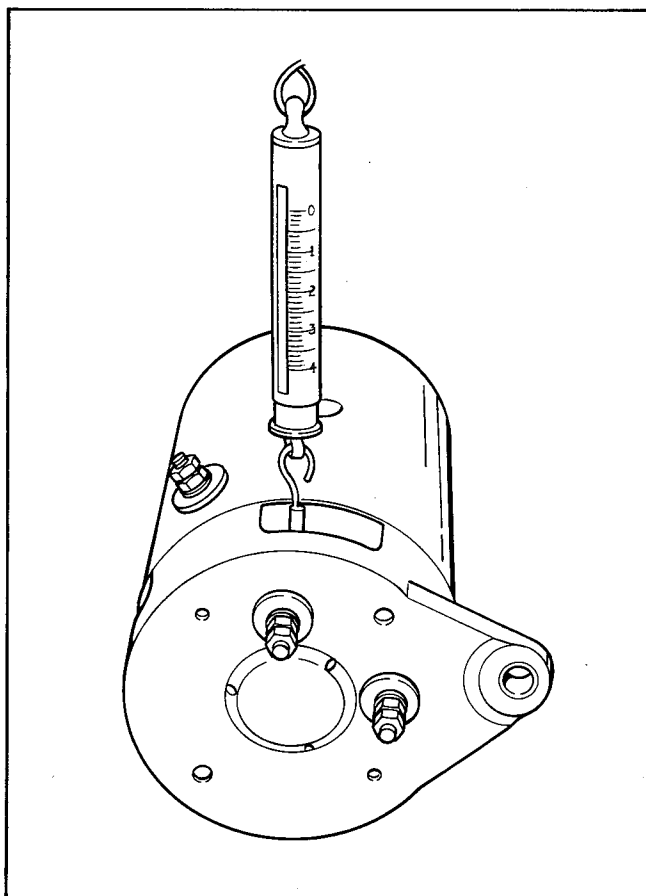

Figure 95 – Test Brush Spring Tension
- b. Test brush spring tension. Use a scale, Figure 95, to test spring tension. Reject springs which apply a force less than 28 ± 4 oz. (680.4 grams).